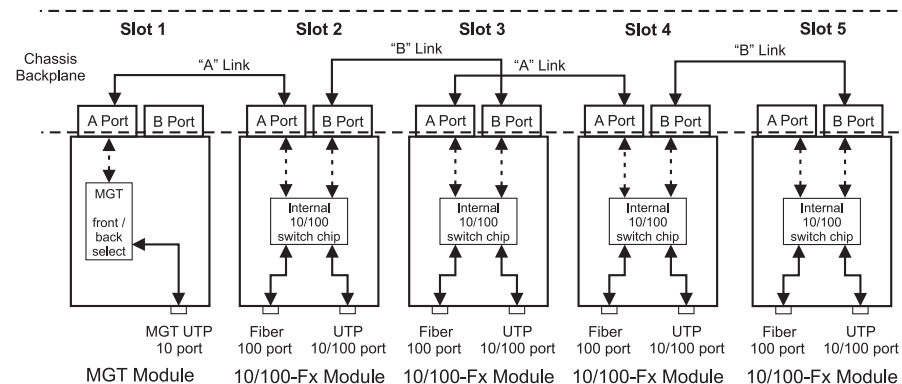

Fig. 3 Out-of-Band Managed 10/100Mbps Converter Application
Fig. 3 depicts an out-of-band managed 10/100 converter application. In this application, which is typical for a Central Office (CO) or a network core, a 5-Module chassis is loaded with 10/100 UTP to fiber converters that convert UTP cabling originating at a core switch to fiber and distributing the fiber in a star configuration to different customers.